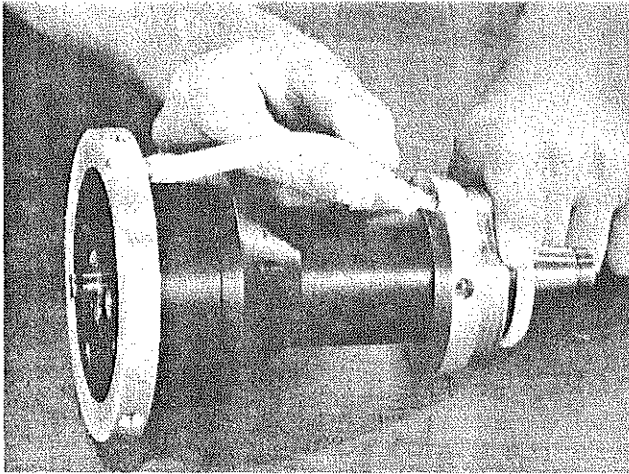

FIG. 36
21. Install new polyethylene tubing (H-2338), $\frac{1}{4}$ " I.D., $4\frac{5}{8}$ " long (supplied in KK-4461 kit), over barbed fittings (Fig. 36).